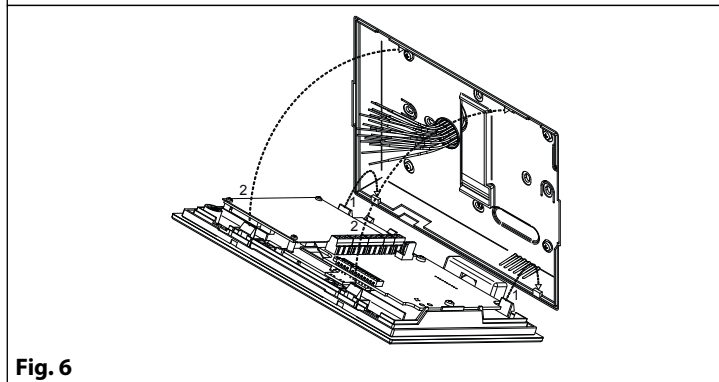

Fig. 6
4. Connect the wires using a flat screw driver then setup the dip-switches as per provided connection diagram or instruction sheet and fix the front part of the videophone to the back cover as shown in Fig. 6: hook first the bottom side then rotate the front part and hook the upper side;